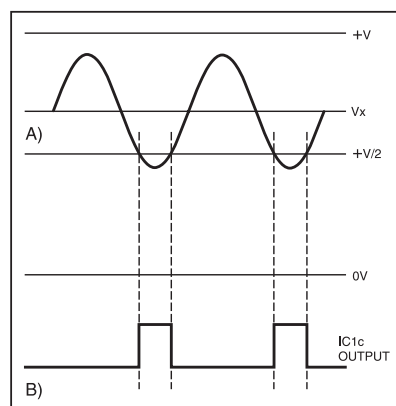

Fig.4. Switching waveforms.
This can be set so that when no metal is present the output from IC1c only just switches on the negative peaks of the signal as shown in Fig.4. This shows the input to IC1c at (A), where  $V_x$  is the bias voltage from VR1, with the output from IC1c at (B).